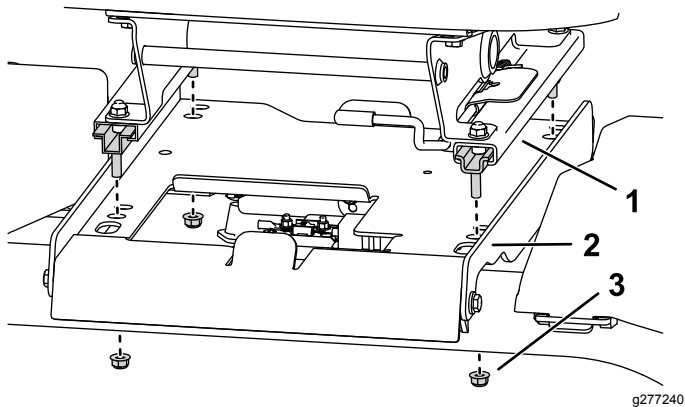

Figure 3
- Remove and discard the 4 nuts securing the seat rails to the seat pan and remove the seat (Figure 3).